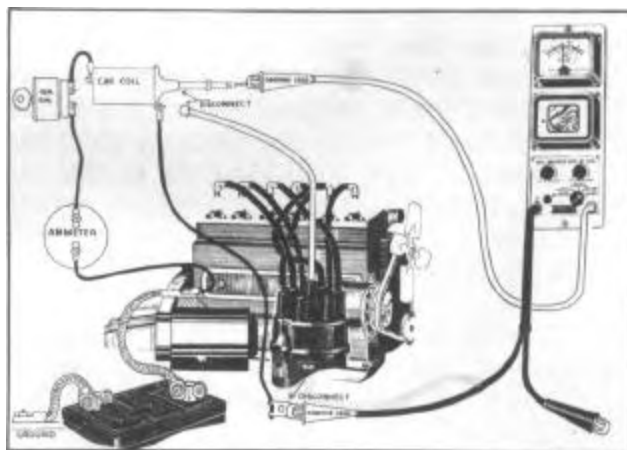

FIGURE 17
4. After calibrating the Test Unit, separate the positive primary and ground test leads, connect the positive primary lead to the primary ignition wire which was removed from the distributor, Figure 17.